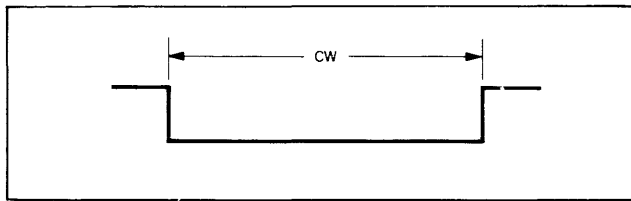

Figure 3-6. 10 CL Gate Signal (TP6)
- a. Connect the oscilloscope to the 10 CL test point (TP6) on the read test PCA. Set the oscilloscope to trigger on the negative slope of the waveform shown in figure 3-6.